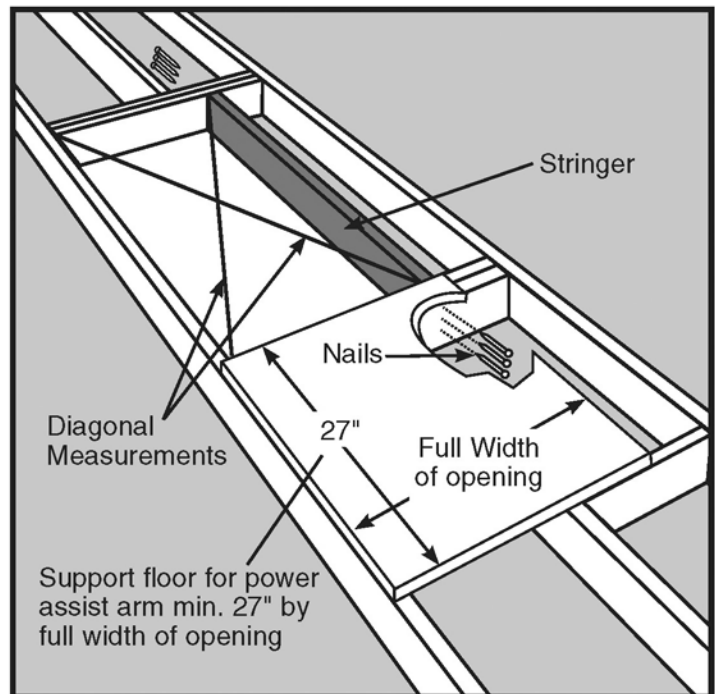

Figure 18
- STEP 4. Position the stringer(s) along the unframed side(s) of your location (See Figure 18). Check that the inside dimensions of the frame are at least 18" x 24".
- STEP 5. To attach the stringer(s) to the headers, use nails that are long enough to go through both headers and into the stringer at least one inch. In most cases, a 4" nail (20d) will be long enough. Square the stringer(s) to the headers at one end and drive 3 nails through the headers and into the stringer. Check for squareness, then nail the other end. Check the rough opening for squareness by measuring across the diagonals. The two measurements must be within 1/8" to be considered square (See Figure 18).